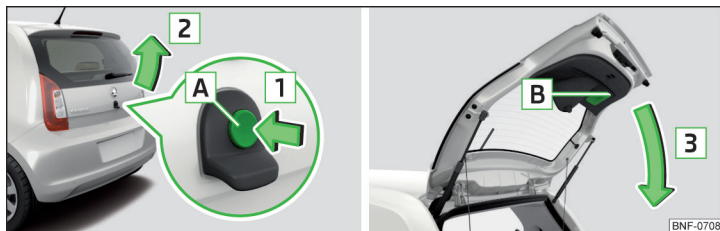

Fig. 33 Opening / closing the boot lid
- Press the button [A] in the direction of arrow [1] » Fig. 33.